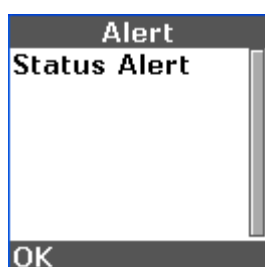

Figure 17 – Alert Example
Displays the alert shown in Figure 17 and waits until the operator presses the enter key or the left softkey (OK).